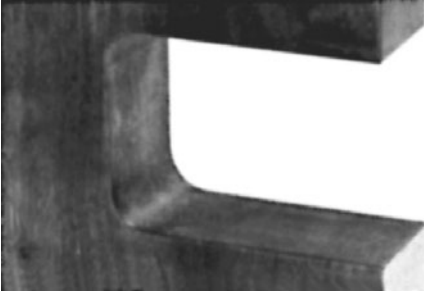

Figure 13.38 Cut door with template.
1. Cut the door using the template as a guide (Fig. 13.38).